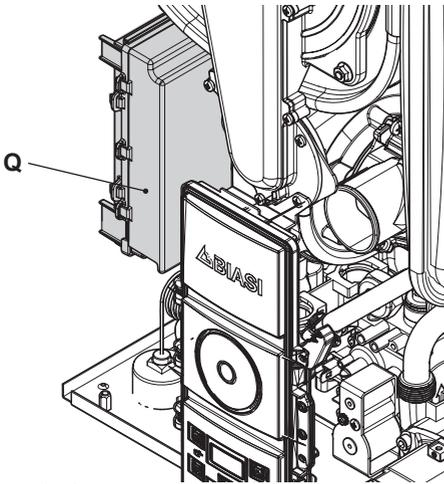

Fig. 6.14
- Identify the terminal block cover lid "Q" (Fig. 6.14) and open it.